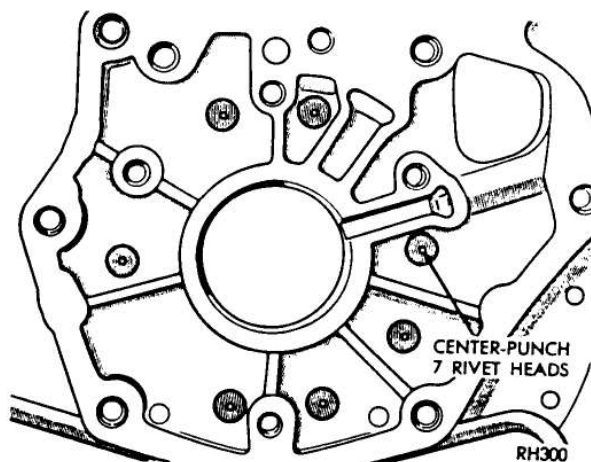

Fig. 36—Center Punch Rivet Heads
- (1) Remove four bolts securing output shaft support to rear of the transmission case. Tap support rearward out of the case with a soft-faced hammer.
- (2) Center punch the rivets exactly in center of each rivet head (Fig. 36).
- (3) Drill through each rivet head with a 3/8 inch drill. Be careful not to drill into the transmission case. Chip off rivet heads with a small chisel, then drive rivets and cam from the case with a blunt punch of